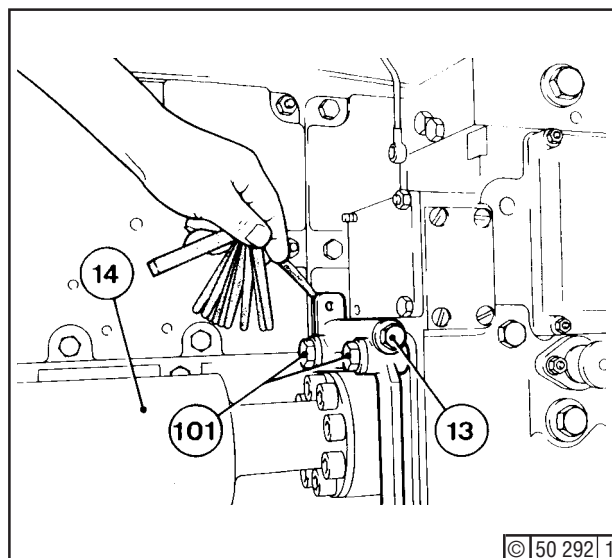

Fig. 9
- Turn shaft (14) - Fig. 9 - by hand at least one full revolution and check for easy movement.
- Lock down hex. bolts (13) - Fig. 9 - until hand-tight.
- Lock down hex. bolts (101) until hand-tight.
- Tighten hex. bolts (13).
- Tighten hex. bolts (101) crosswise.